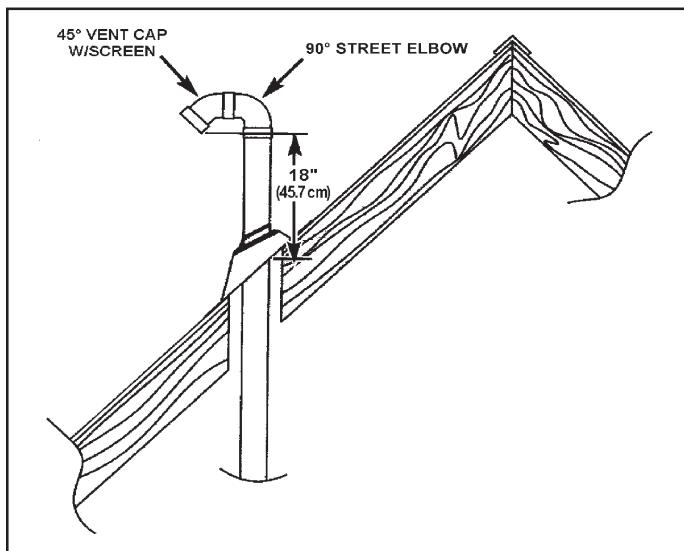

FIGURE 8.
- The vent exhaust outlet and air inlet terminals shall terminate at least 18 inches (45.7 cm) above the roof surface, see Figure 8.